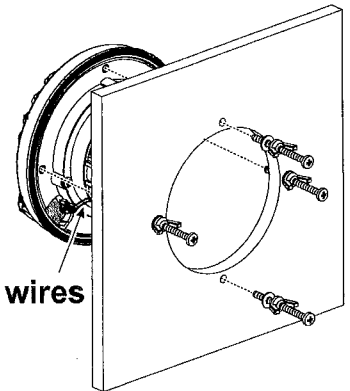

Figure 6
5. Referring to Figure 6, pass through the four M4x50 Screws (with Nut and Washer) into the mounting holes on the panel from the back side and turn the M4x50 Screws five times. In this case, care must be taken not to pinch the wires from the "Push To Alert" switch between the speaker case and mounting panel.